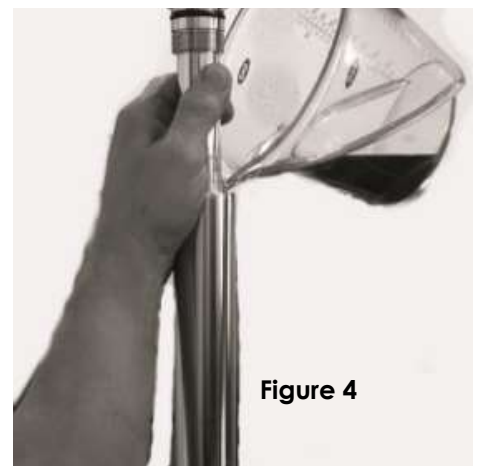

Figure 4
- Pour 5 ounces of 10 wt. fluid in each fork (we recommend Progressive Suspension Fork Oil (Standard - Type E)), pausing to stroke the assembly to get the fluid into the outer fork slider. Failure to do this will cause the required amount of fluid to overflow (see figure 4). This fluid is just to lubricate moving parts and has no effect on the actual damping action of the sealed Monotube cartridge fork insert.